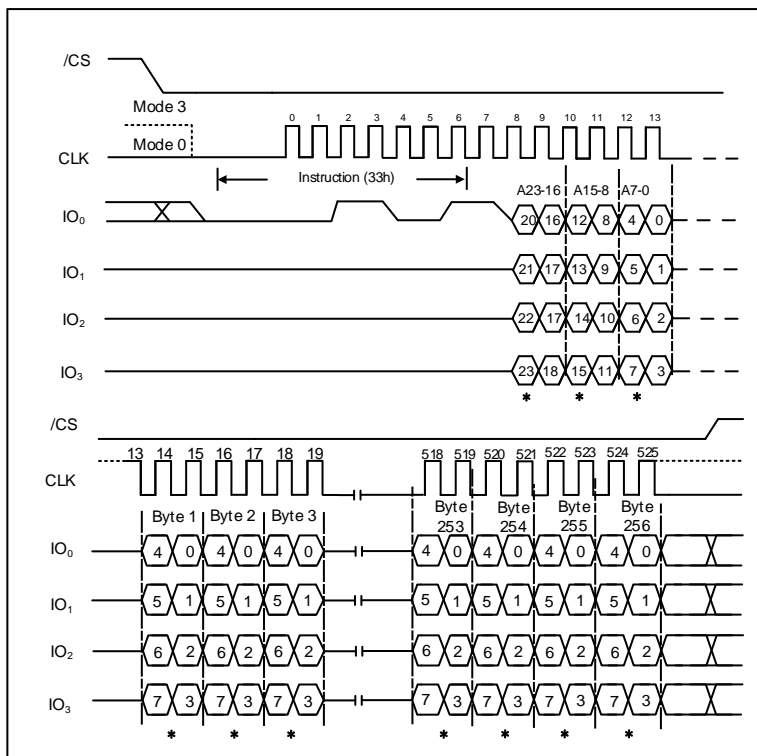

Figure 20. Quad Page Program Instruction (SPI Mode only)
The Quad Page Program (33h) instruction is similar to the Quad Input Page Program (32h) instruction except that address and data bits are both input and output through four pins IO₀, IO₁, IO₂ and IO₃. The Quad Page Program can improve performance for PROM Programmer and applications that have slow clock speeds <5MHz. Systems with faster clock speed will not realize much benefit for the Quad Page Program instruction since the inherent page program time is much greater than the time it takes to clock-in the data. To use Quad Page Program the Quad Enable (QE) bit in Status Register-2 must be set to 1. The Quad Page Program instruction sequence is shown in Figure 20.